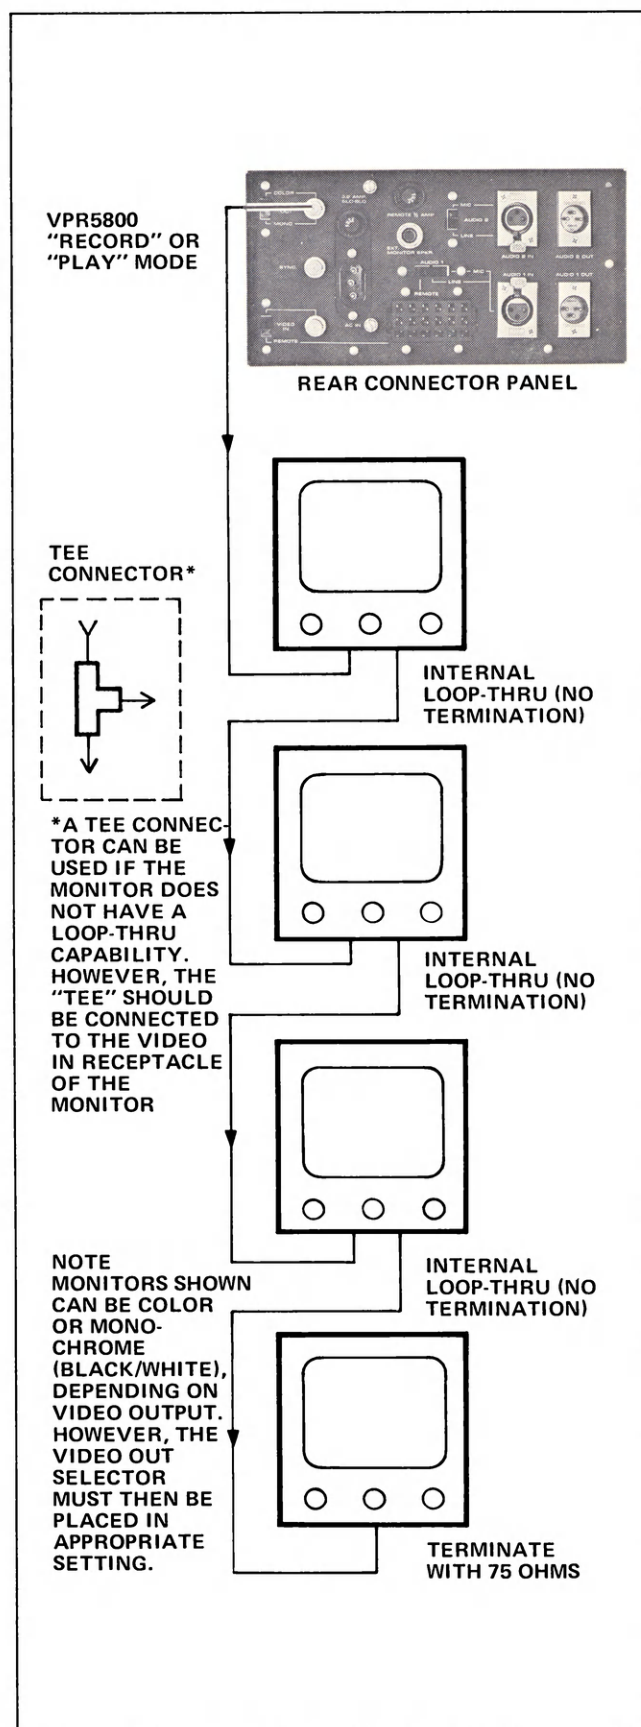

Figure 4 Multi-Monitor Connections
(Reference figure 4)
1. Connect the desired number of monitors or modified TV receivers to the VPR5800 as shown in figure 4. If only one monitor/receiver is used, terminate it with 75 ohms.
1. Connect a color or monochrome monitor(s) to the Video Out receptacle as required (Reference figure 4 for connections); set the Video Output selector (on rear panel) to the appropriate setting (COLOR or MONO).